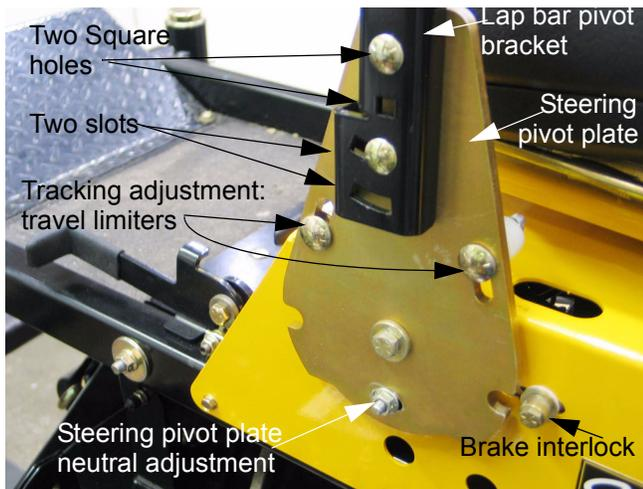

Figure 15.3
15.3. The lap bar pivot brackets are adjustable to suit individual operators. See Figure 15.3.